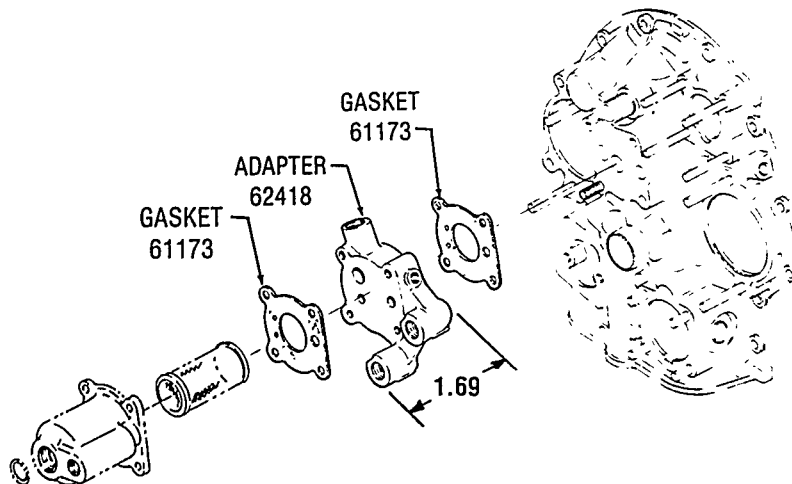

Figure 8. Exploded View of Oil Filtration Screen and Cooler Adapter Assembly
The above step (4) does not apply to some installations of the O-235 and O-290 which have no provision for an oil cooler. See Figure 8 for models not using full flow canister type oil filter, but utilizing oil cooler adapter P/N 62418.